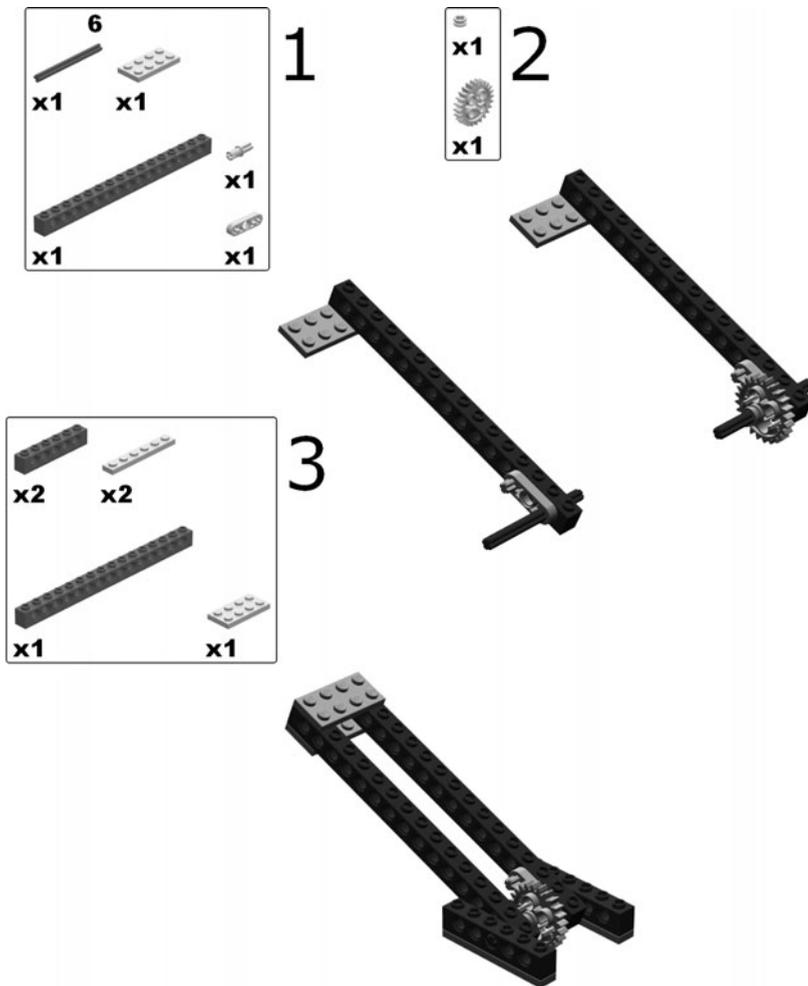
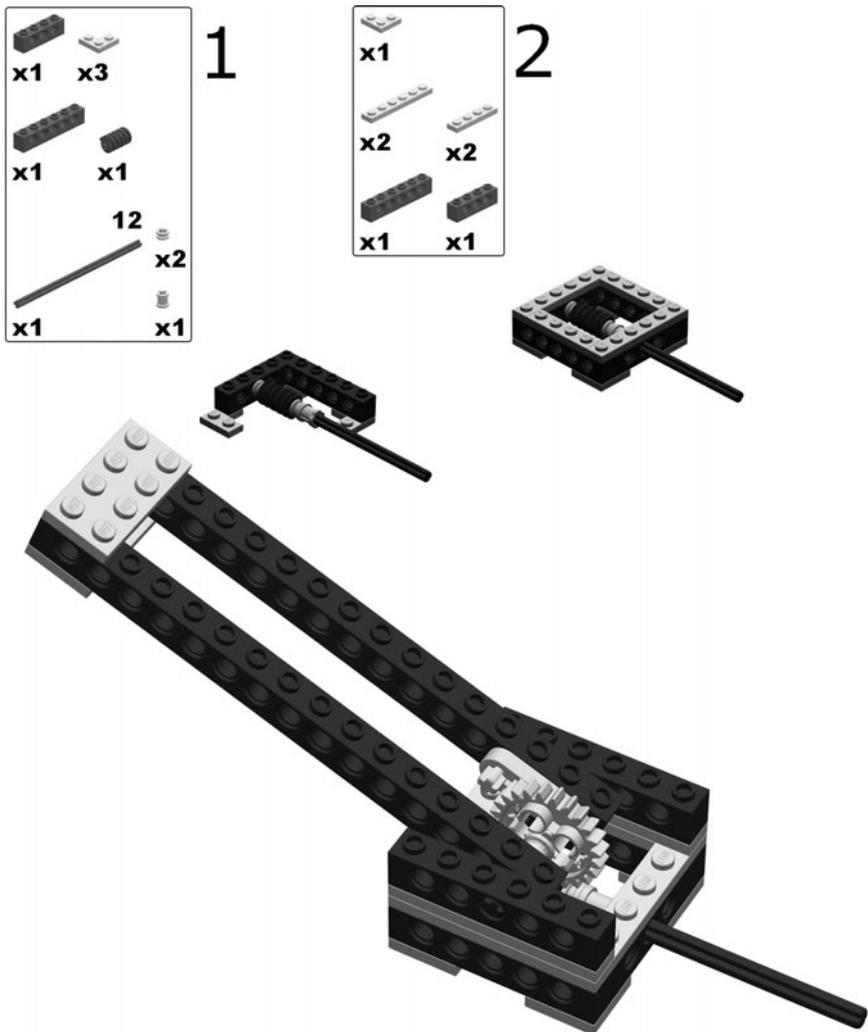

Fig. 9-20. Worm gear arm part 1.
Fig. 9-21. Worm gear arm part 2.
**Try This:** This project expands on the worm gear base from Fig. 9-19. First, build a simple arm with a locked gear at its base as shown in Fig. 9-20. Then you can build the worm gear base and attach the arm to it (Fig. 9-21). When you turn the long input shaft the arm raises and lowers. When you stop turning, the arm stops moving. Pushing or pulling on the arm demonstrates a little bit of backlash, but no back-driving. Having a joint that locks in place means that you don't have to use power to keep it there.